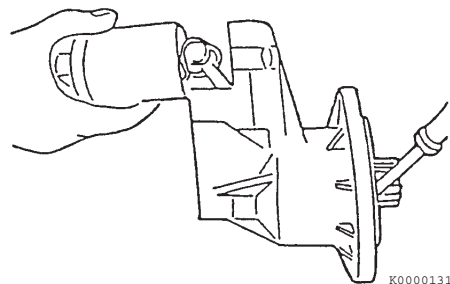

Figure 11-29
5. Reassemble the magnetic switch assembly to the gear housing. Pry the pinion away from the gear housing to allow installation of the magnetic switch assembly (Figure 11-29).